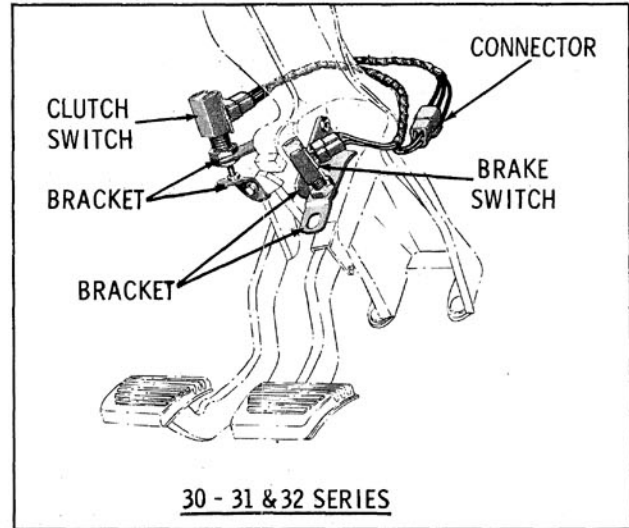

Fig. 12-45 Release Switch Adjustment (30, 31 & 32)
4. Adjust switch so that lamp will light when brake or clutch pedal is released and will not light when brake or clutch pedal is depressed approximately 1/4". (Figs. 12-45 and 12-46)